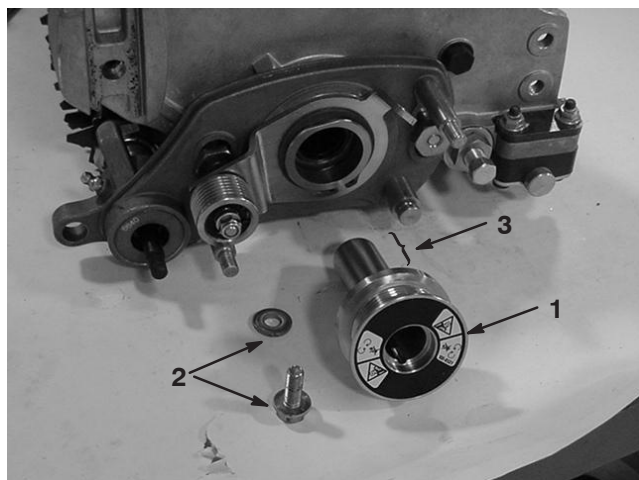

Figure 12
22. Apply grease to the internal spline and outer surface of drive pulley, as shown in figure 12.
23. Secure groomer drive pulley to reel shaft with a washer and flangehead capscrew. Apply Anti-seize to capscrew threads before installation. Torque to 100 in.-lbs. (11.3 N·m) (Fig. 12).